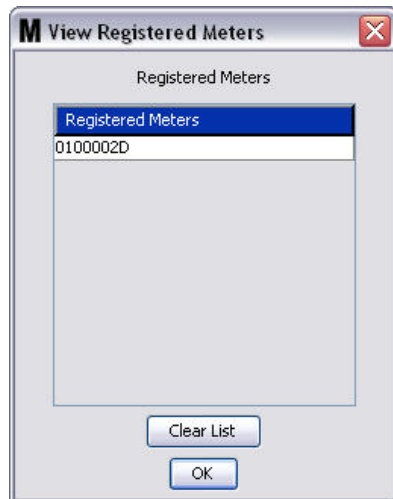

FIG. 137
- **LINK/UNLINK button** - When all parameters on the Meter Profile screen have been completed, click the Link button to display the Meter Profile/ID Assignment screen shown in FIG. 137. From the list of registered Meters, select a meter to associate the profile to from the list. Click OK to close the screen and save the changes.